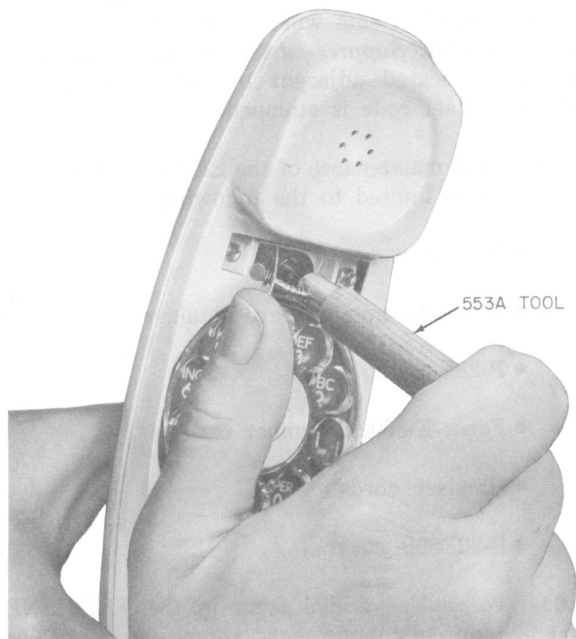

Fig. 11—Replacing Dial Lamp in Early Production TRIMLINE Hand Telephone Set
**5.05** To replace a dial lamp in the TRIMLINE hand telephone set, removing cover or number card retainer, and light-seal plate. Current production hand telephone sets have the lamp in a horizontal position, and a KS-6320 orange stick can be used to remove the lamp. **Exercise caution to prevent the lamp from flying out of the socket in a dangerous manner.** In early production hand telephone sets use a 553A tool to remove the lamp from its vertical position (Fig. 11).